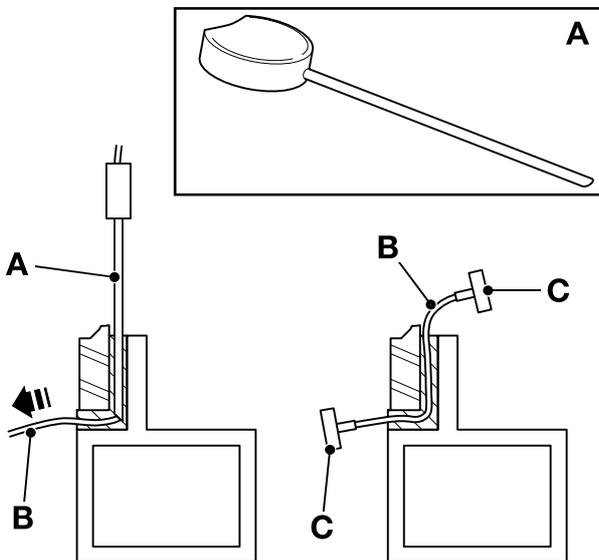

Fig 5. Braided Cutting Wire and Handles
- b Braided Cutting Wire and Handles.** ⇒ Fig 5. \(□ B-29\). This method uses a 3-core wire, a wire starter tube and two handles.